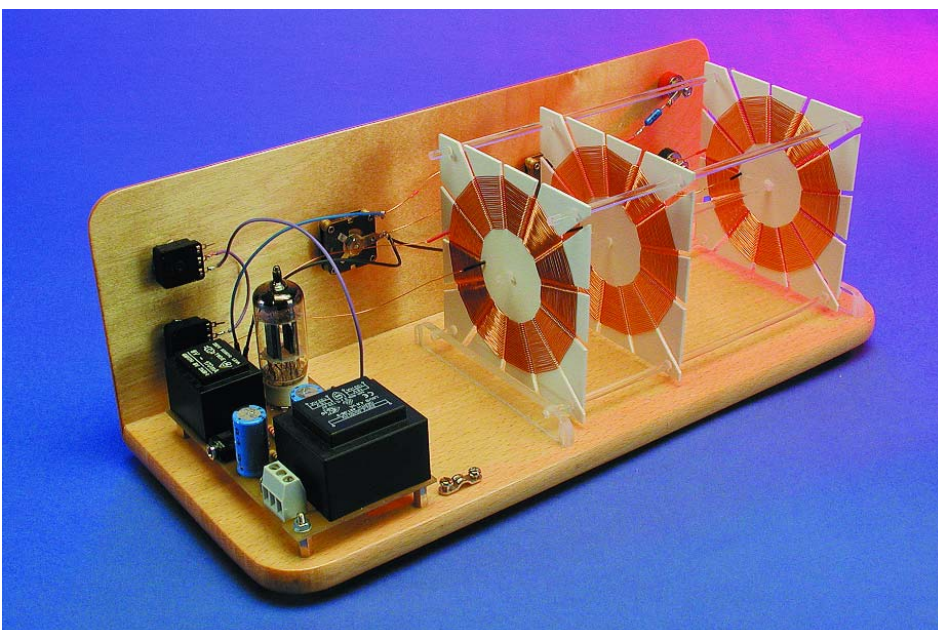

Figure 4. Rear view of the completed receiver.
The aerial coil (LA) and detector coil (LD) are connected directly to C1 and C3 respectively (A-wires to the wipers). The wipers are connected together and to the common ground. A wire is connected to the wiper of the detector tuning capacitor, for connection to the 'Gnd' terminal on the PCB. This wire is soldered with the B-wire from the reduction coil (LR) to a terminal socket, which plugs onto the 'Gnd' pin. The connection between the 'hot' side of C3 and pin D on the PCB is also made using a terminal socket. Then the A-wire from coil LR is connected to P1, the wipers of P1 and P2 are connected together, and P2 is connected to pin R on the PCB again using a terminal socket. And finally the aerial socket is connected via a 100 pF capacitor to the 'hot' side of C1. **Figure 4** gives a rear view of the completed receiver.